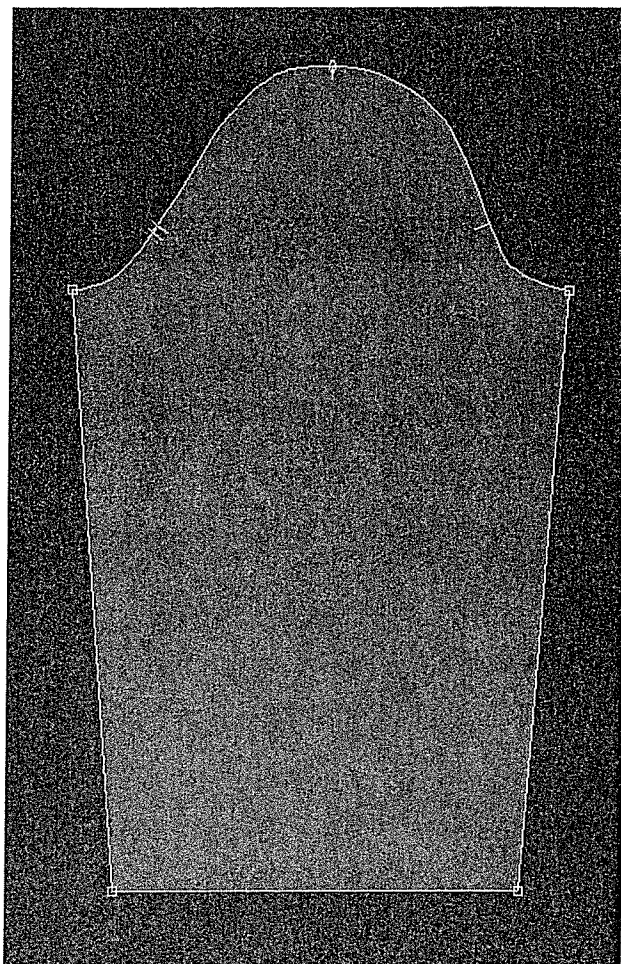

Figure 4.32 Long straight sleeve.
1. Digitize a sleeve or open the sleeve file named Sleeve Block provided on the CD-ROM (Figure 4.32). Hint: To keep the original sleeve, select *Sheet>Copy* and right-click to place the new pattern piece. Keeping the original pattern piece is important when you are trying new commands or the pattern work does not generate a new pattern piece.